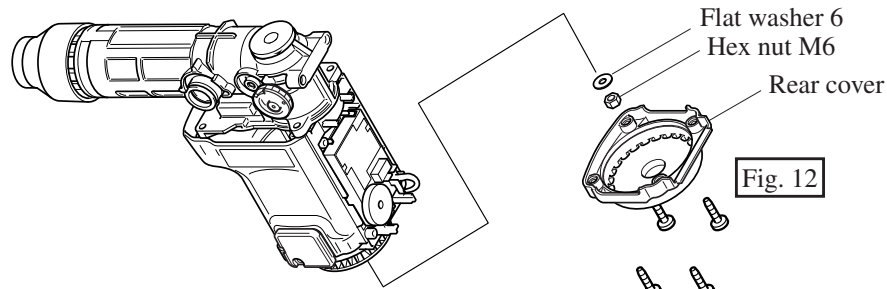

Fig. 12
(5) Disassemble rear cover, and unscrew hex nut M6 with impact driver as illustrated in Fig. 12.